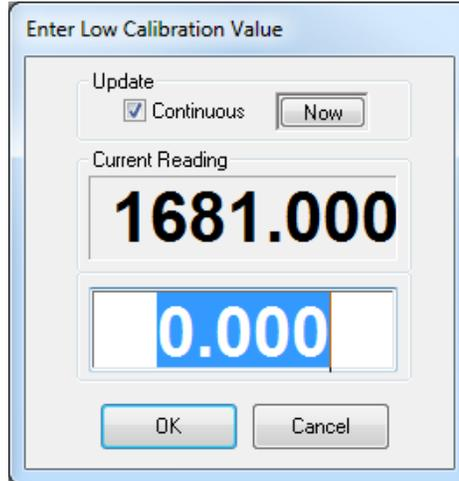

Figure 103: AI low calibration value (current mode)
- This procedure details the calibration procedure for a three (3) point calibration. Available target values will be displayed in the calibration window and will become active in the prescribed calibration order: Low Cal Point, 100% Cal Point, and 50% Cal Point.
12. Click **Low Cal Point**. This should represent the lowest calibration point. In this example it should equal zero (0) for a 0-100 range.
- b. When the current reading stabilizes, click **OK**. (Figure 103).